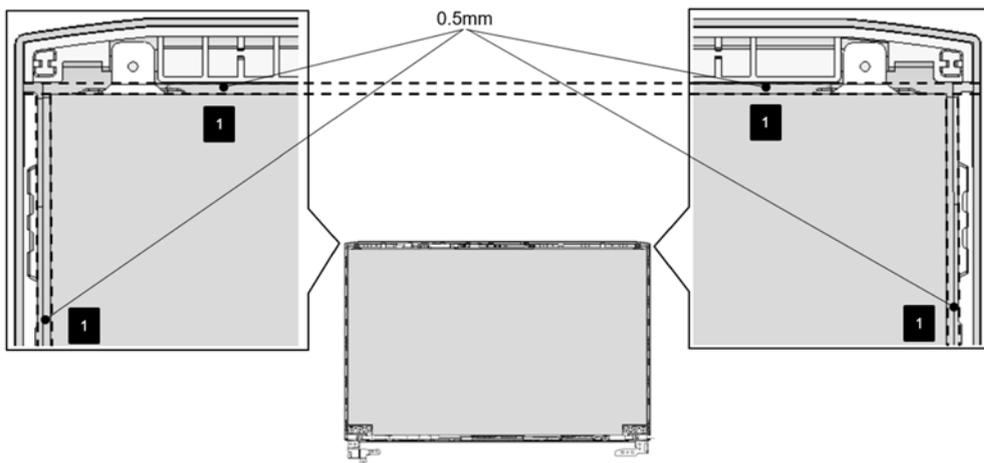

Figure 4-25 Panel assembly explanation (For P30)
5. For Panel P30 type : Rotate the panel right-side up and use 0.5mm Mylar between LCD cover and Panel to seat it in the correct position as shown in Figure 4-25.  ,1
9. For Panel P30 type: Rotate the panel right-side up and use 0.5mm Mylar between LCD cover and Panel to seat it in the correct position as shown in Figure 4-25.